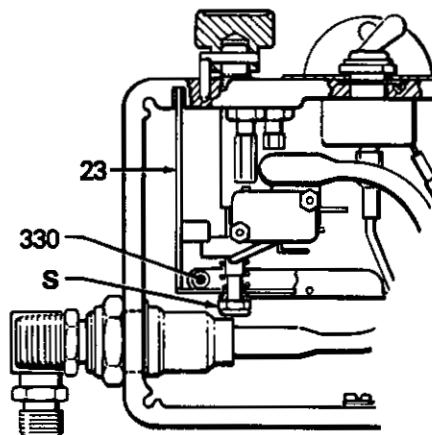

Fig 18
2. Turn the pressure control knob all the way counter-clockwise to the minimum setting to release spring tension on the circuit board (23). Also check to be sure only three or four threads of the pressure control knob shaft are exposed below the pressure adjustment nut (S). Back down the nut, if necessary. See Fig 18.